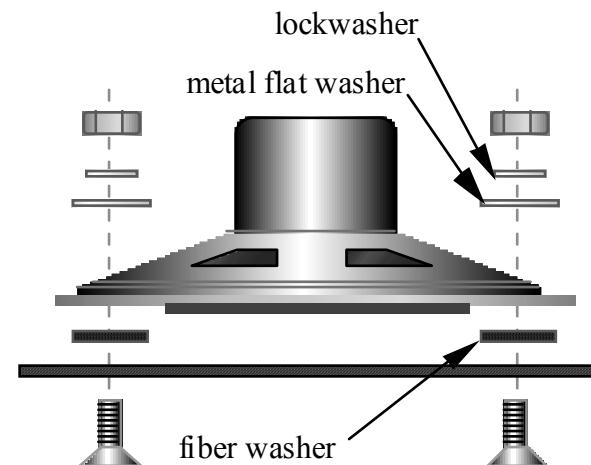

Figure 10-2
- Trim the speaker grille cloth so it is the same size as the speaker frame and then trim the corners so it fits between the fiber washers. Keep the grille cloth in place as you secure the speaker to the top cover using four 5/16" (8 mm) flat-head screws, #4 fiber washers (black), #4 metal flat washers, #4 internal-tooth lock washers, and 4-40 nuts (Figure 10-2). **Do not over-tighten the nuts, as this can flex the speaker frame, causing damage to the speaker and/or distorted audio.**